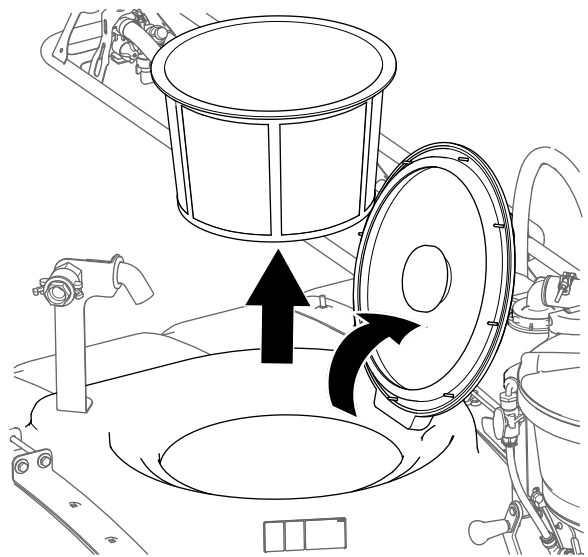

Figure 14
1. Open the lid of the spray tank and remove the filter basket (Figure 14).